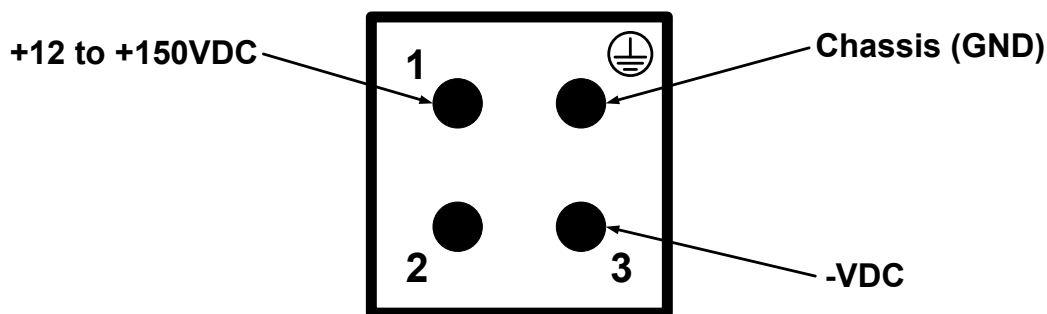

Figure 27 Power Source Connections
5. Connect a power source to pins 1 (+) and 3 (-) on the DC power input front panel connector (Figure 27).